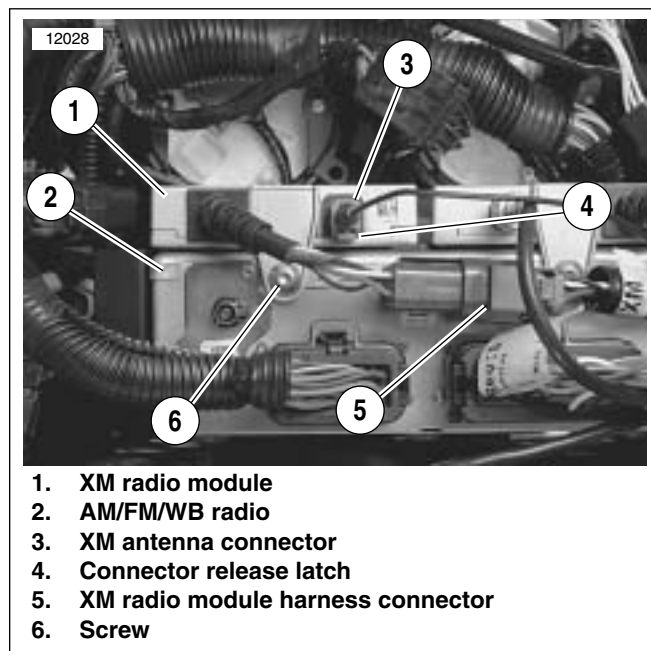
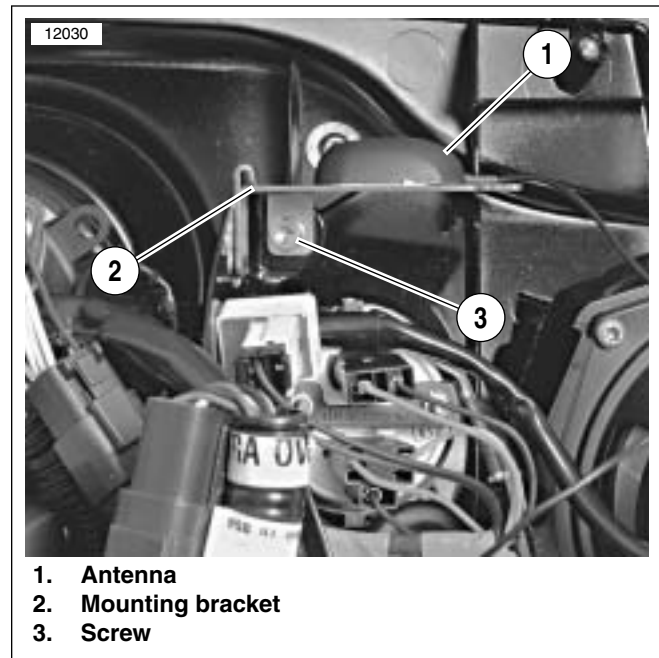

Figure 8-16. XM Radio Module and Connections
Figure 8-18. XM Radio Antenna
2. See Figure 8-16. Lift release latch (4) and unplug antenna connector (3).
3. Unplug XM radio module harness connector (5).
4. Remove screw (6) and gently pull XM radio module (1) straight forward. Remove module from vehicle.
2. See Figure 8-16. Install screw (6) and tighten securely.
3. Plug in XM radio module harness connector (5).
4. Plug in XM antenna connector (3).
2. See Figure 8-16. Lift release latch (4) and unplug XM antenna cable connector (3).
3. See Figure 8-18. Remove screw (3) and remove antenna mounting bracket (2) from fairing bracket.
1. See Figure 8-18. Install antenna mounting bracket (2) onto fairing bracket.
2. Install screw (3) and tighten securely.
3. See Figure 8-16. Plug antenna connector (3) into socket in XM radio module (1).